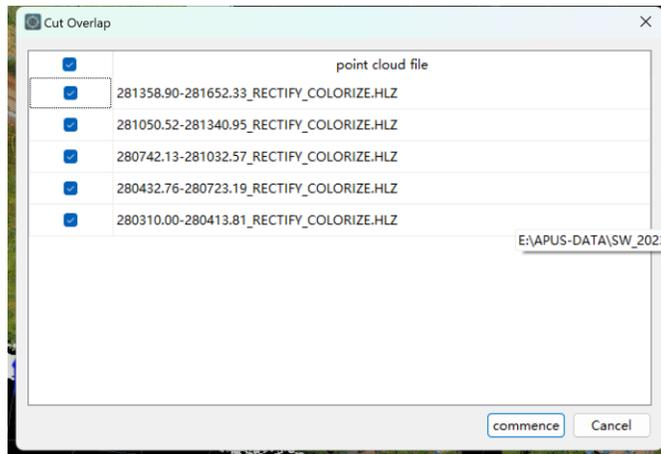

Figure 3-169 Remove the edge points of the air strip
- Click <Toolbox> → <Data Process> → <Process> → < Remove Strip Edge Points > on the main interface, a dialog box will pop up (Figure 3-169).